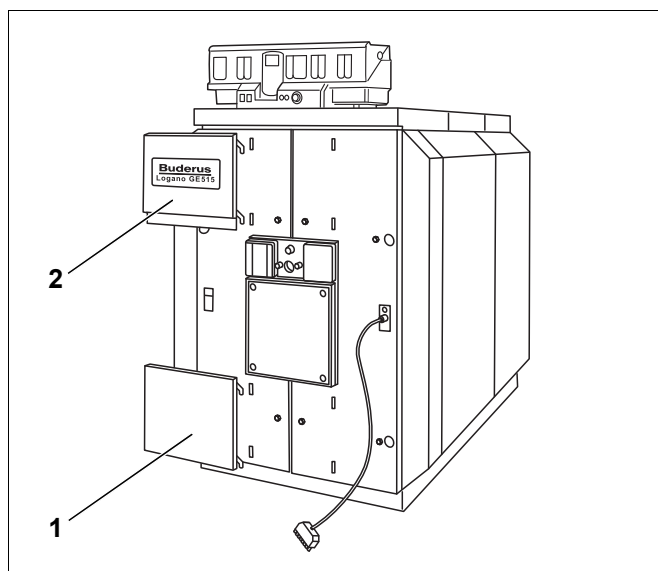

Fig. 58 Hook in the burner door facia panels
- Hook in the burner door facia panels into the burner door casing (Fig. 58, [1] and [2]).